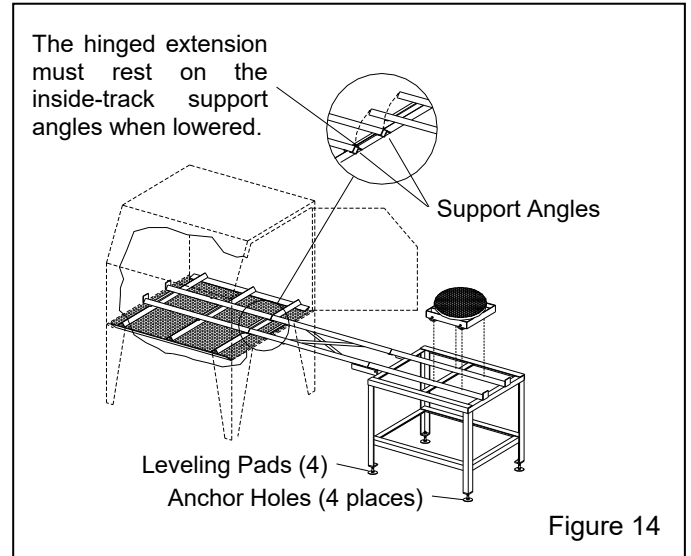

Figure 14
3.5.3 Position the track support table and extension, as shown in Figure 14. When the hinged extension is lowered, the extension tracks must rest on the angled locating supports welded to the bottom of the inside tracks, and it must butt against the inside tracks.